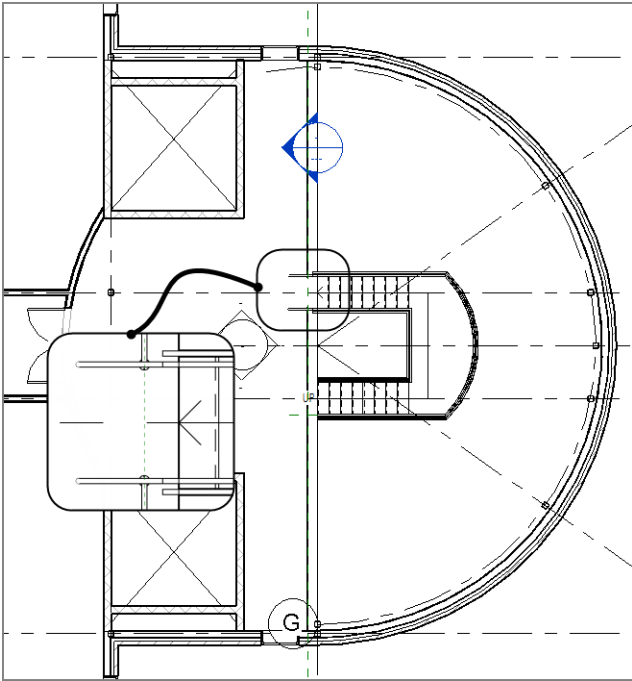

FIGURE 10.31: Reconfiguring the fifth floor
7. Delete the middle railing, and make the south railing extend to the ADA post, as shown in Figure 10.31.